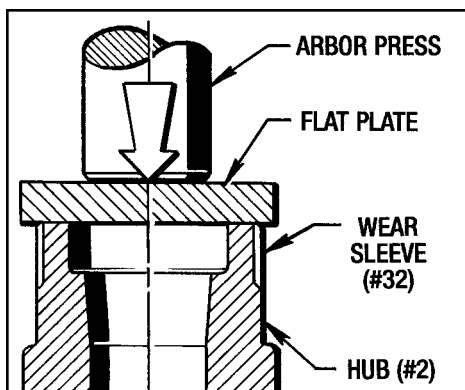

Figure 9.6 - Installing Wear Sleeve (#32)
- With an arbor press and flat plate, install this Wear Sleeve (#32) on to the Hub (#2) as shown in Figure 9.6. Press until the Wear Sleeve bottoms out on the shoulder. Clean off any excess Loctite.